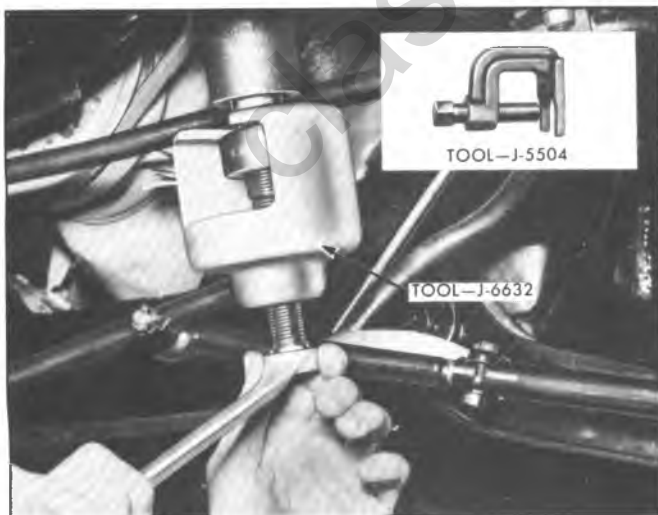

Fig. 3B2-4--Removing Pitman Arm
3. Remove the pitman arm nut. Mark the relationship of the pitman arm to the pitman shaft. Remove the pitman arm with Tool J-6632 or J-5504 as shown in Figure 3B2-4.
4. Loosen the steering gear adjuster plug locknut and back the adjuster plug off 1/4 turn (Fig. 3B2-5).